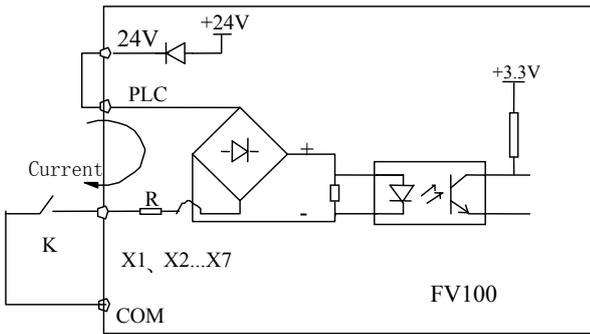

Fig.4-7 Wiring method of using the internal 24V power supply
FV100 multi-function input terminal uses a full-bridge rectifying circuit as shown in Fig.4-7. PLC is the common terminal of terminals X1~X7, The current flows through terminal PLC can be pulling current and the feeding current. Wiring of X1~X7 is flexible and the typical wiring are as follows:
- 1) Use the internal 24V power supply of VFD, the wiring is as in fig.4-7.